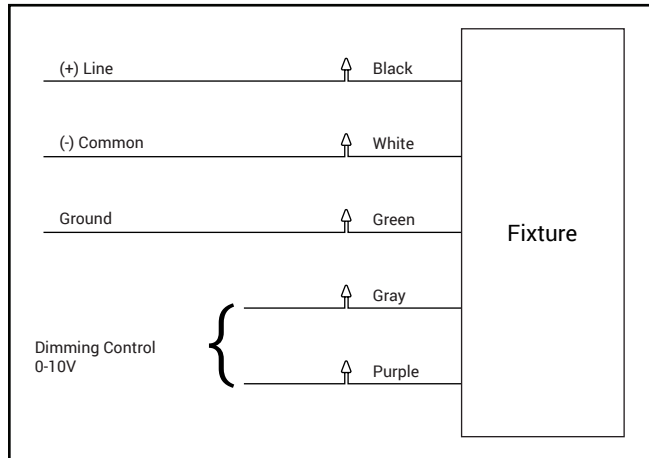
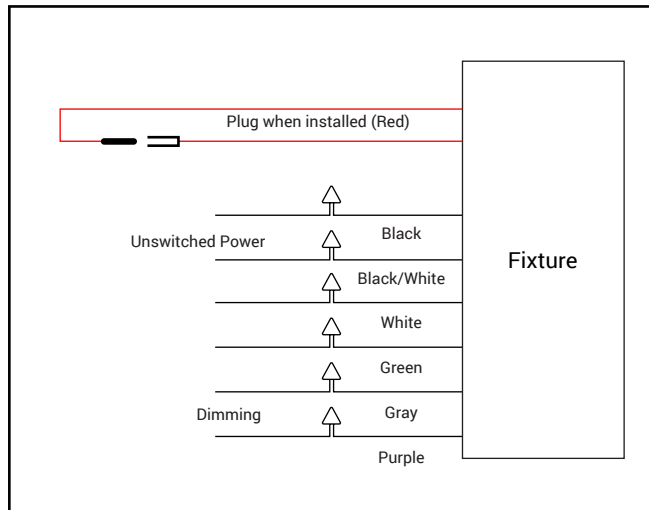

Figure 4.
Figure 5.
6. Make wire connections per Figure 4. If fixture is equipped with a battery backup system use Figure 5